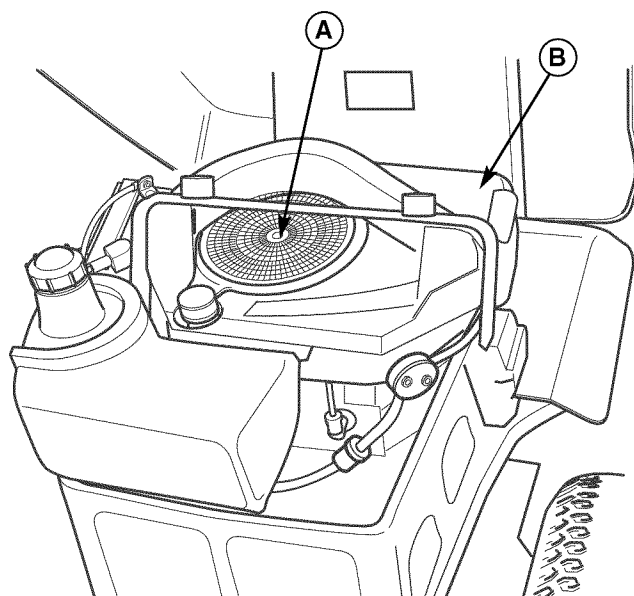

Figure 16. Engine Compartment
CAUTION: If debris is not removed from the engine compartment and other hot surfaces, it creates a fire hazard. Before starting the unit at the beginning of the mowing session, lift the seat deck and clean any debris from the intake screen on top of the engine (A, Figure 16), exposed engine cooling fins, and around the air filter assembly. Also open the air filter cover (B) and remove any debris that has accumulated in the air filter compartment.